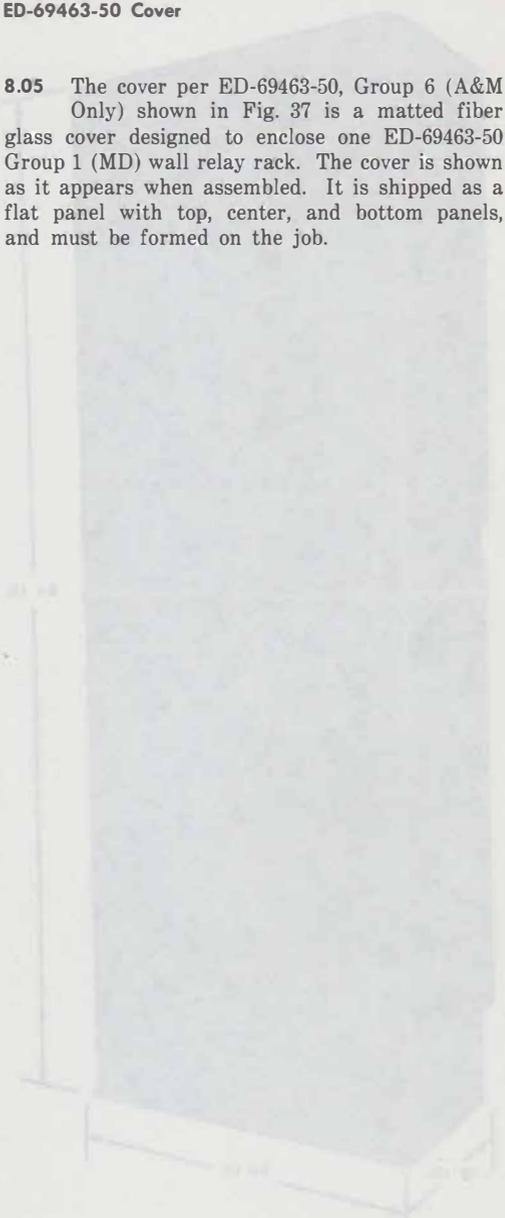

Fig. 37—Cover per ED-69463-50, Group 6 (A & M Only)
8.05 The cover per ED-69463-50, Group 6 (A&M Only) shown in Fig. 37 is a matted fiber glass cover designed to enclose one ED-69463-50 Group 1 (MD) wall relay rack. The cover is shown as it appears when assembled. It is shipped as a flat panel with top, center, and bottom panels, and must be formed on the job.